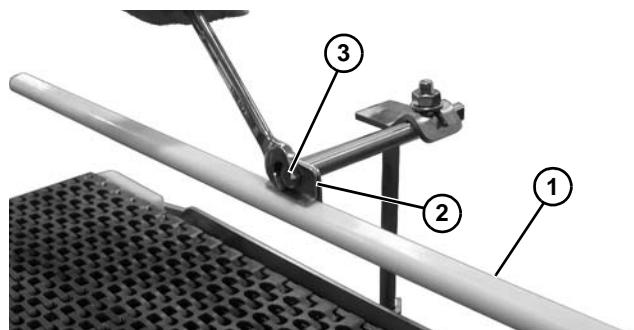

Figure 62
1. Install guide rail (Figure 62, item 1) onto brackets (Figure 62, item 2). Tighten screw (Figure 62, item 3) to secure.